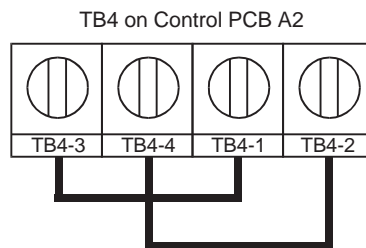

Fig 1.5 RS-485 Communication Connection
3. When using RS-485 communication, connect TB4-1 to TB4-3, and TB4-2 to TB4-4, on the control circuit terminal board. See Fig 1.5 below.